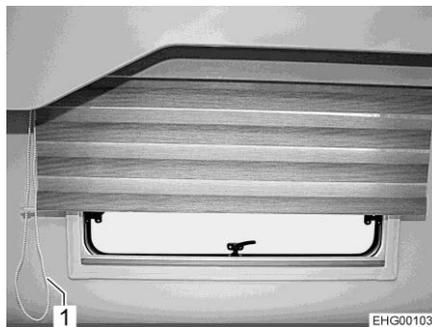

Fig. 60 Vario blind, rear area
- Pull the strand of the pull chain (Fig. 60,1) that closes the Vario blind until the Vario blind is in the desired position.
- Pull the strand of the pull chain (Fig. 60,1) that opens the Vario blind until the Vario blind is in the desired position.